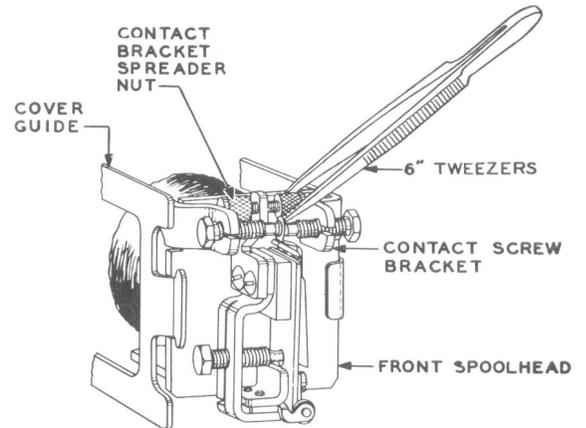

Fig. 11 - Method of Adjusting for Contact Screw Bracket Position
(1) All Relays: Where a contact screw bracket stud does not rest in the slot in the spoolhead, position the bracket with the fingers.
(2) Relays Equipped With Contact Bracket Spreader: If the clearance between a contact screw bracket and the front spoolhead is not satisfactory, turn the nut on the spreader with the 6-inch flat tweezers in a direction which will move the bracket away from the spoolhead as shown in Fig. 11.